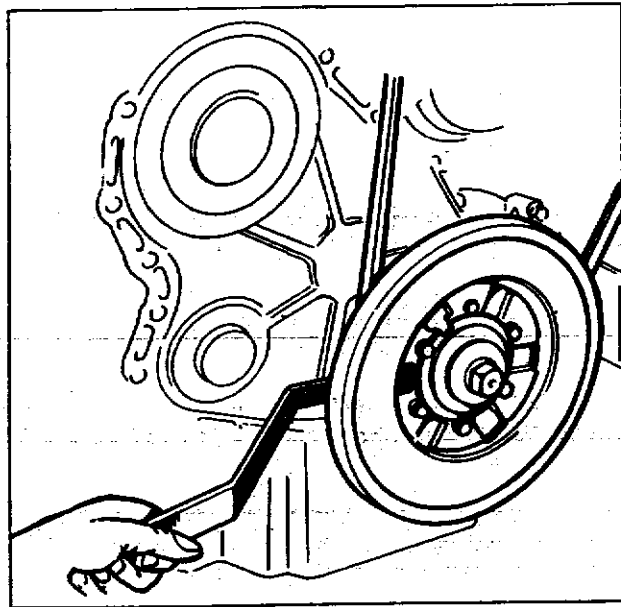

Fig. 55 Engine Turning Bar located in Barring Plate
4. Check the evenness of the cylinder compressions by turning the crankshaft with the engine turning bar Fig. 55.